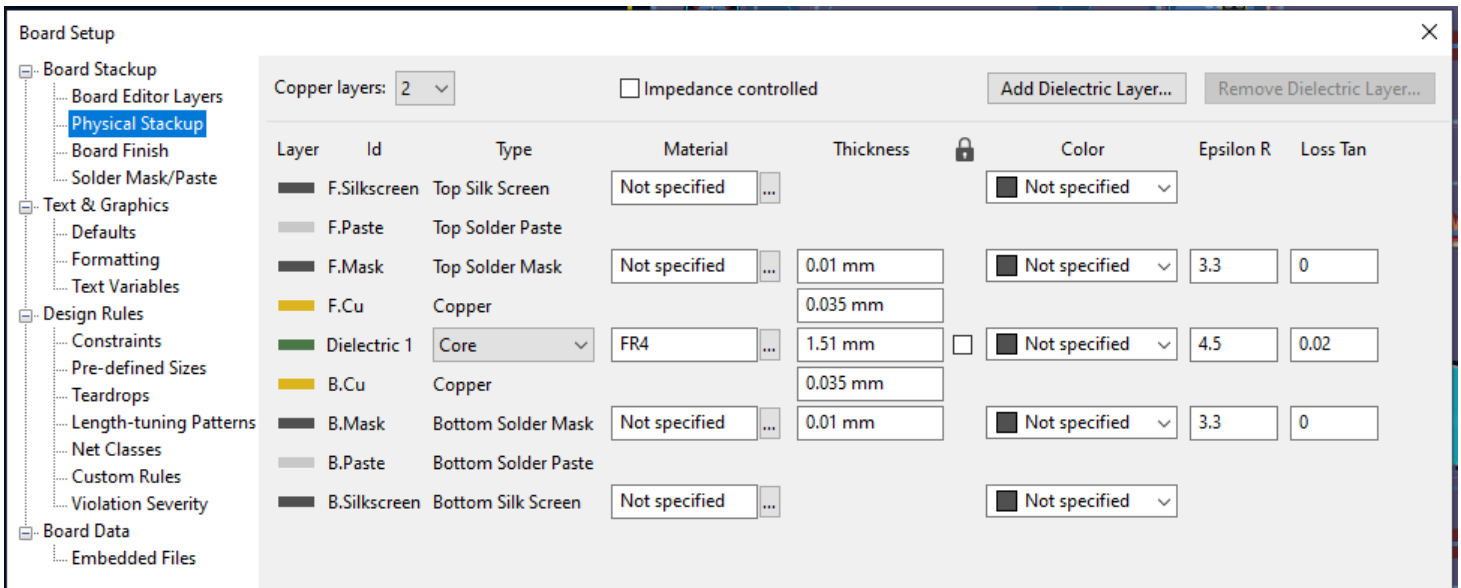

Figure 3: Board Stackup
- Figure 3:** Board Stackup
- **Prepreg:** Shown in Figure 3, this layer is made up of fiberglass impregnated with partially cured resin. It acts as an adhesive to bond together the copper cores and other layers. It provides mechanical strength, electric isolation.